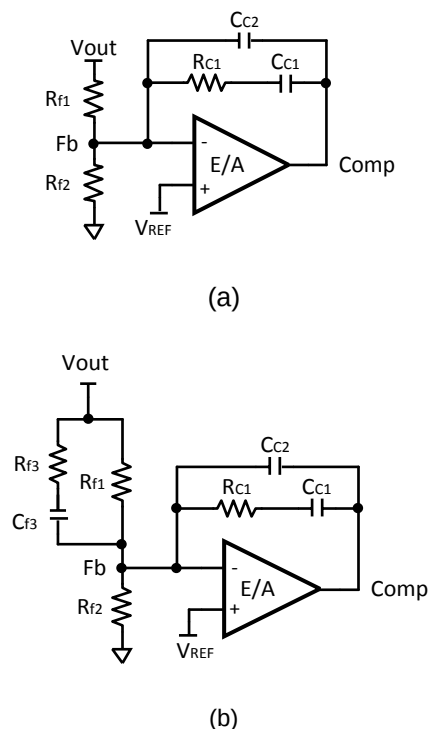

Figure 5: Loop Compensator (a) Type II, (b) Type III
Two types of compensators are commonly used: Type II (PI) and Type III (PID), as shown in Figure 5. The selection of the compensation type is dependent on the ESR of the output capacitors. Electrolytic capacitors have relatively higher ESR. If the ESR pole is located at the frequency lower than the cross-over frequency, F_c , the ESR pole will help to boost the phase margin. Thus a type II compensator can be used. For the output capacitors with lower ESR such as ceramic capacitors, type III compensation is often desired.